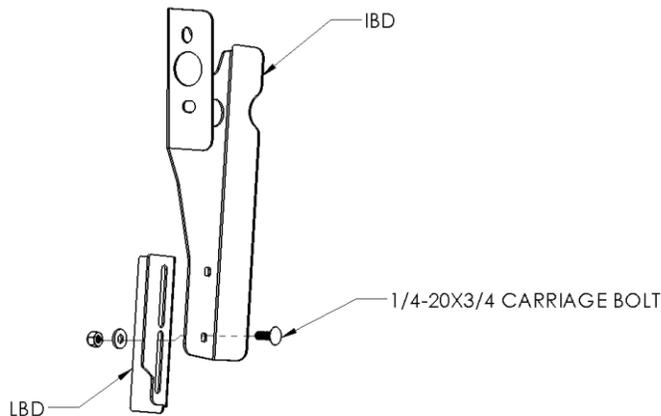

FIGURE 3 – Inner bracket sub-assembly, driver side shown
- ii. Attach the Lower Brackets to the Inner Brackets with (1) carriage bolt in the *bottom* hole (See FIGURE 3).